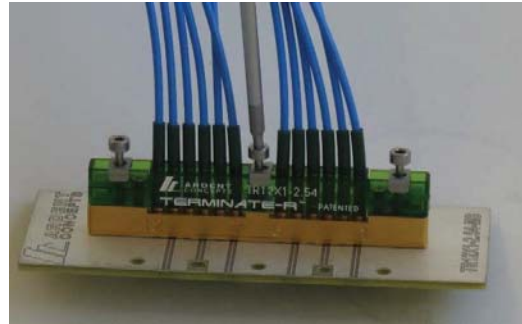

Figure 8: Tightening the Middle M2 Screw
- While holding the TR Assembly in place, tighten the M2 hex screws located on top of the Strain Relief Block until a torquing resistance is observed (See Figure 8).